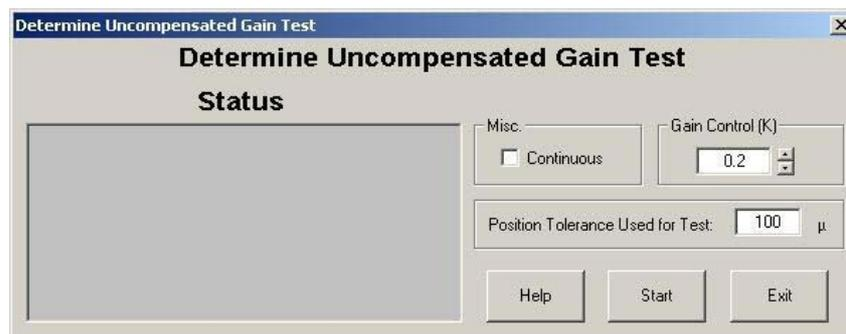
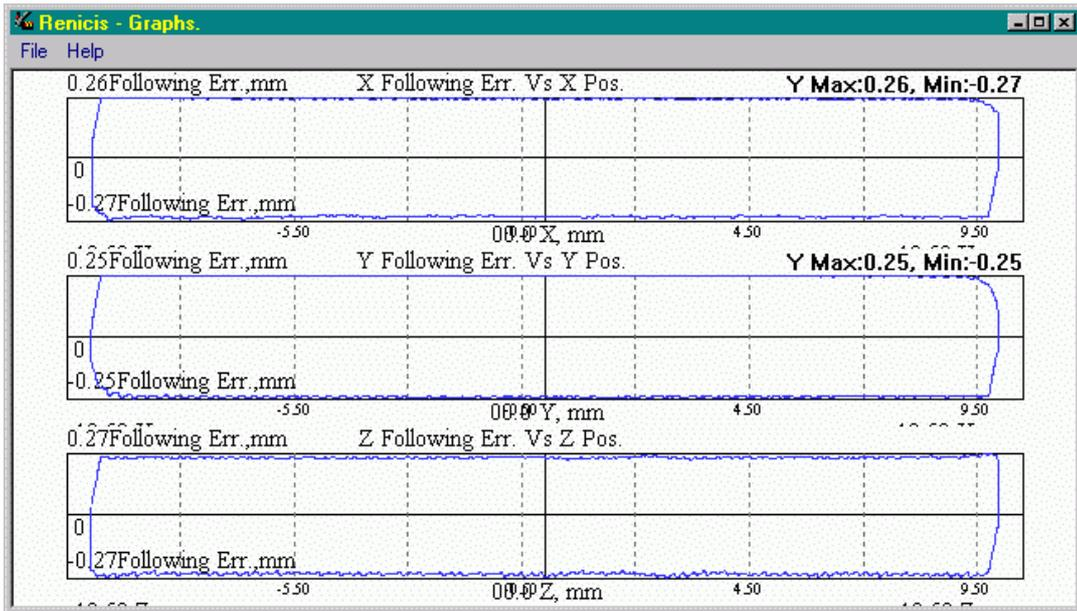

Figure 9
Figure 10
2. Follow the instructions given until the test dialog is displayed, refer to figure 9. Ensure that the default value of 0.2 is indicated, then click on the “Go” button. The machine should move in a forward and reverse cycle in all three axes and the following error present during the move displayed on the graphs. Examine the graphs produced (refer to figure 10).
3. If the machine runs smoothly and no periodic oscillations are apparent (refer to figure 10). The uncompensated gain can be increased (either directly in the edit box, or by clicking on the upper 'spin' button to the right of the edit box) by approximately 10%, now referred to as  $K_{P1}$ , and the test repeated by clicking on the “Go” button again.